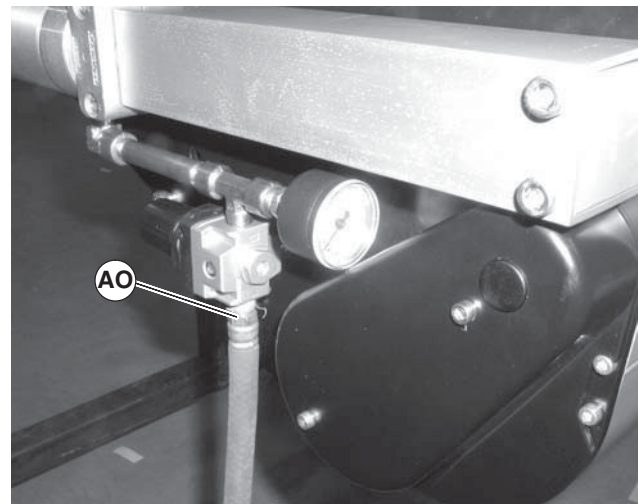

Figure 84
1. Remove air supply (Figure 84, item AO) from center drive module.